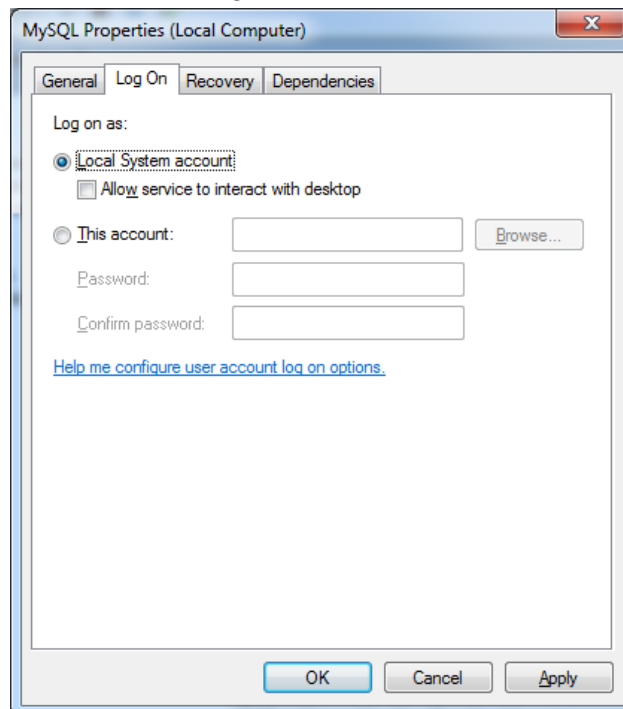

Figure 5 Service properties dialog.
- Select Local System account, see below Figure 5, and click OK.